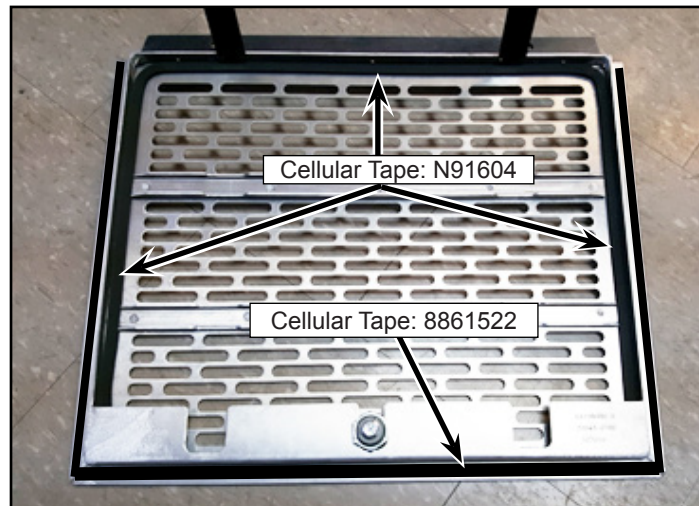
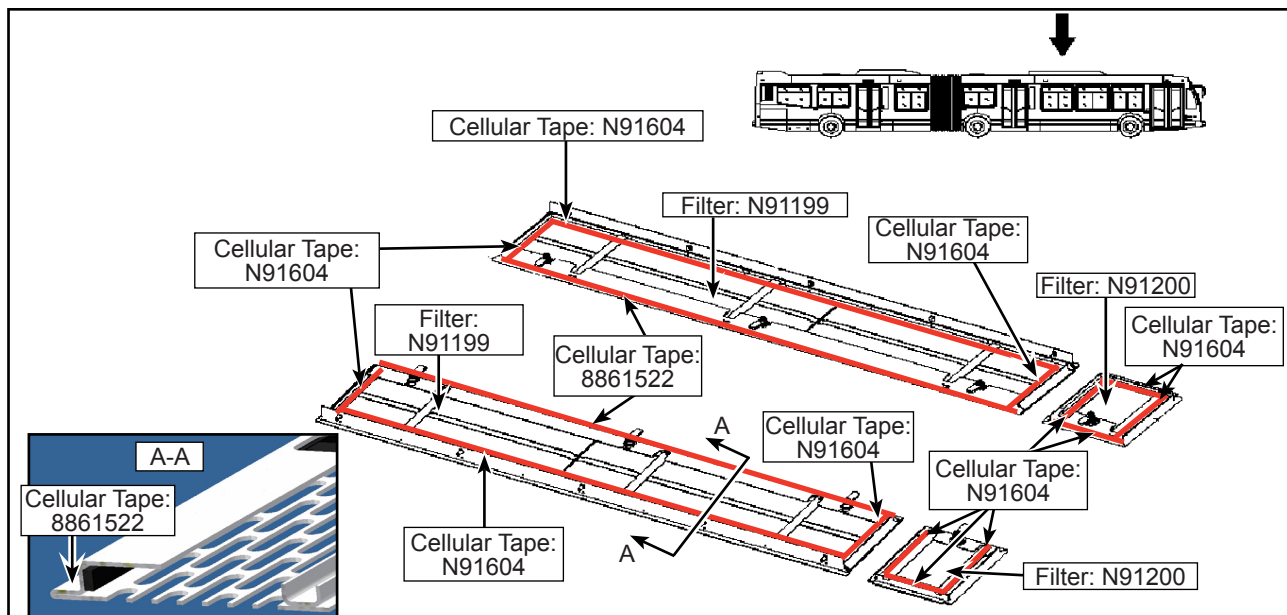

Figure 4 - Installation of Cellular Tape on the Interior Perimeter of Grill (Front Section)
Figure 5 - Installation of Cellular Tape and Filter (Front Section)
- 1.8. Clean the bonding surfaces and install the indicated new foam tape on the interior perimeter of the grill assemblies (see Figure 4 and Figure 5). Ensure that there are no gaps left.
- 1.9. Replace the existing filter with new aluminium bordered filter on the grill assembly at the front section of the vehicle (see Figure 5).